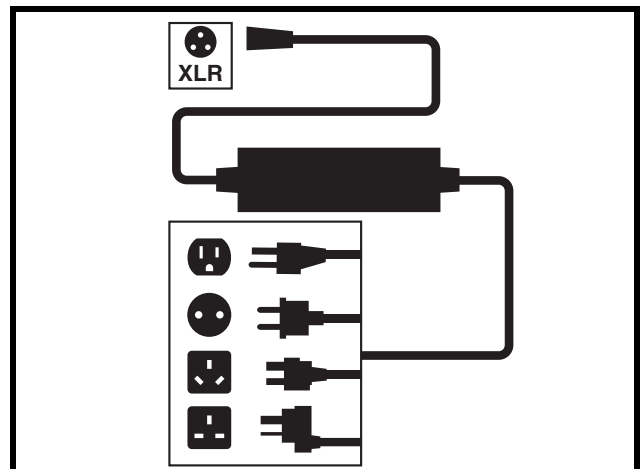

Figure 10. Battery Charger
The off-board battery charger, when plugged into the charger power cord receptacle and a standard electrical outlet, charges the Travel Scooter's batteries. See figure 10.
4. Plug the charger power cord into the charger power cord receptacle on your Travel Scooter, then into the electrical outlet. We recommend that you charge the batteries for 8 to 14 hours. **See figure 10.**